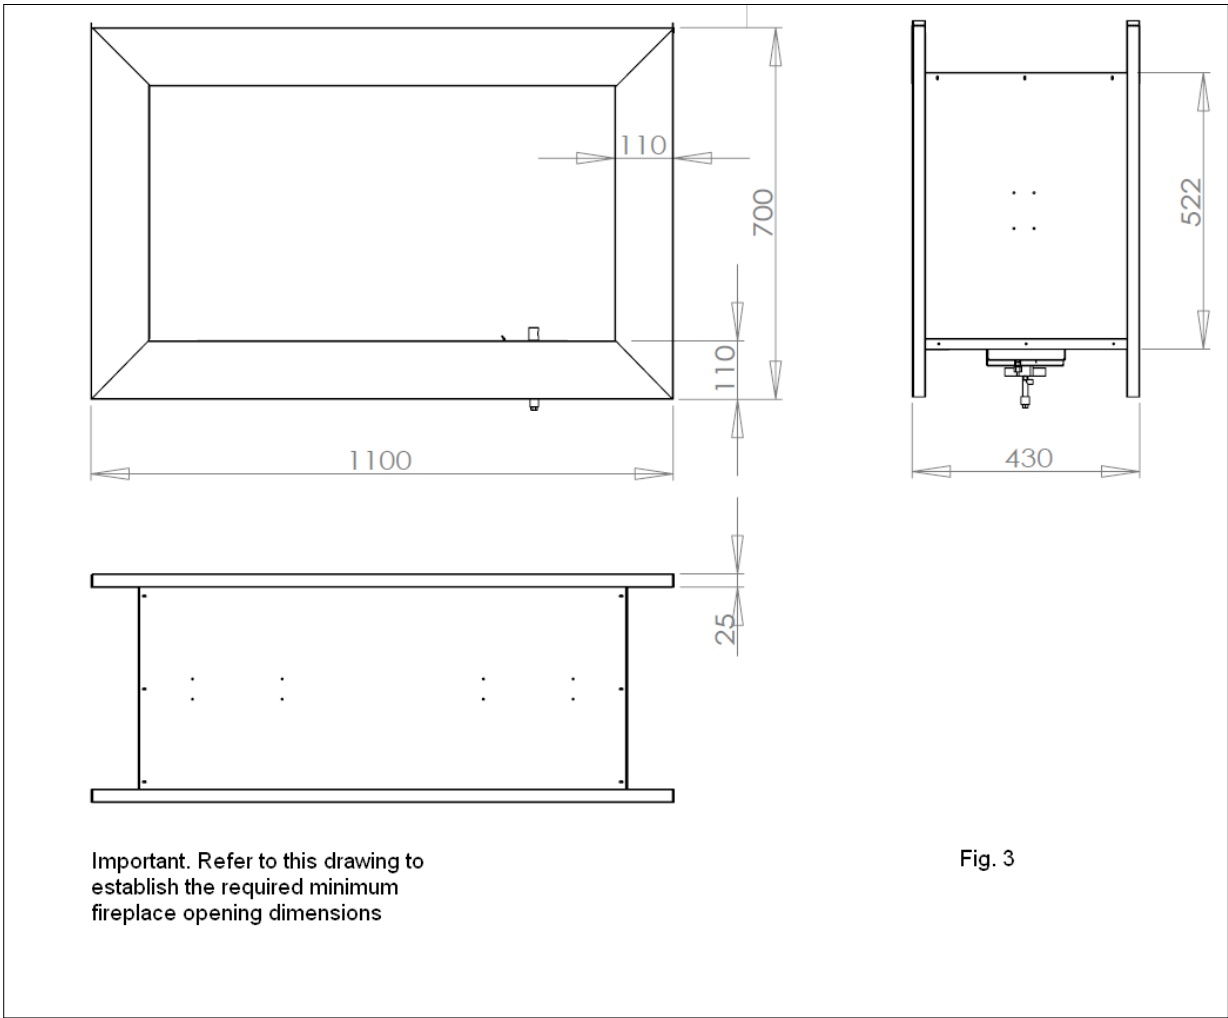

Fig. 3
- After checking that the gas supply to the gas grate is turned on, by opening the cylinder valve and the emergency shut off valve (also the appliance isolator valve- if fitted), push the control knob (See Fig. 3) in and whilst holding it in the pushed in mode, turn it anticlockwise to the ignite position. This should ignite the burner. If the burner does not ignite the first time repeat the above step by turning the control knob back to the off position and try again. You will not be able to turn the knob to the ignite position unless it remains in the pushed in position whilst turning the knob.